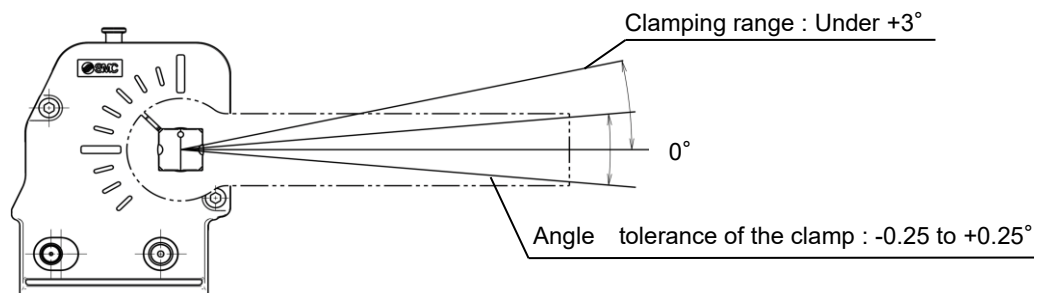

Figure 1
- (1) There is a mechanical difference of -0.25 to $+0.25^\circ$ at the clamping end as shown in Figure 1.
(Figure 1)